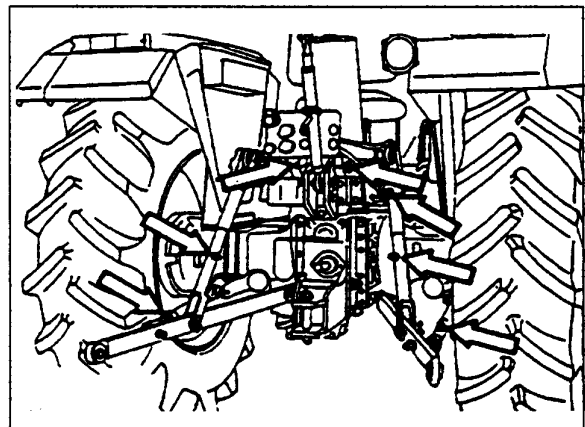

Fig.5-28b - Engrasadores del enganche tripuntal.
- Enganche tripuntal: 7 engrasadores (Fig.5-28b)